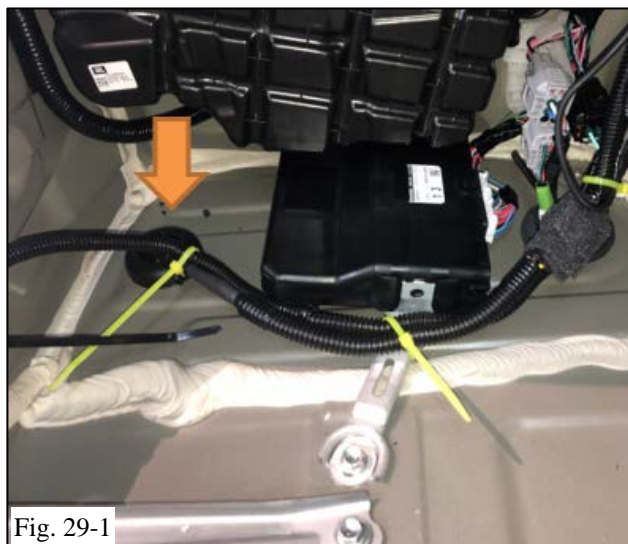

Fig. 29-2
- (a) Route the 4-Flat connector harness through the hole (Fig. 29-1 and Fig. 29-2) from the interior of the vehicle toward the exterior of the vehicle .
- (1) Wrap the connector between with foam pad (Fig. 29-2).
- (2) Secure the 4-Flat Harness connection to Trailer Module Harness wrapped with foam tape to vehicle or existing trailer wire harness with wire tie (Fig. 29-2).